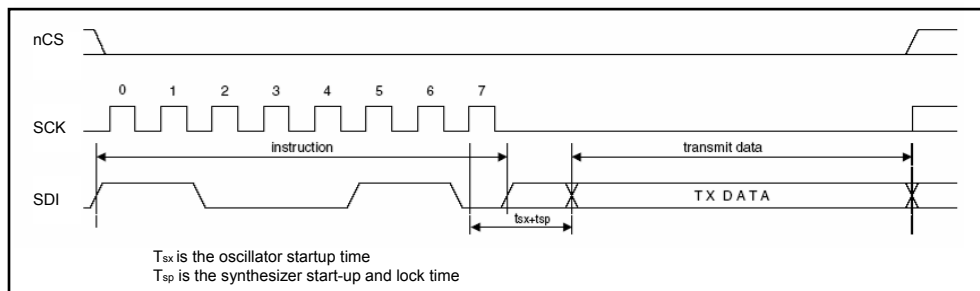

Figure 6. Data Transmit through SDI pin
The Transmit Command Register in EEPROM mode holds the count of the number of data bytes to follow. In processor mode, only the command code is sent and the data is applied to the SDI pin **WITHOUT** a clock. If clock pulses are sent, the data will be interpreted as commands. In this mode the SDI pin acts like the MOD input pin (16). See Figure 6.